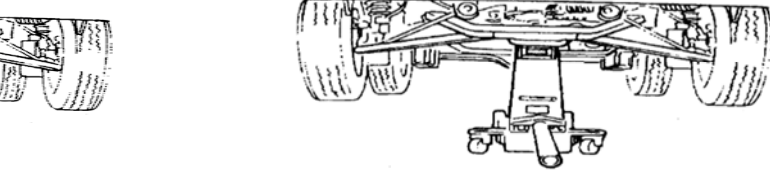
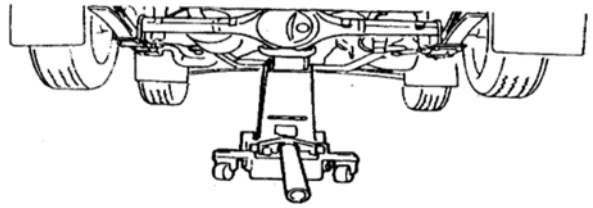

Fig. 1.1-3 Sketch of jack used in back side
Fig. 1.1-4 Sketch of jack used in front side
2. When jacking up the front end or back end with lifting jack, be sure first to aim the lifting jack at the central position of front suspension or rear axle housing, then to bear a vehicle, see Fig. 1.1-3, Fig. 1.1-4.